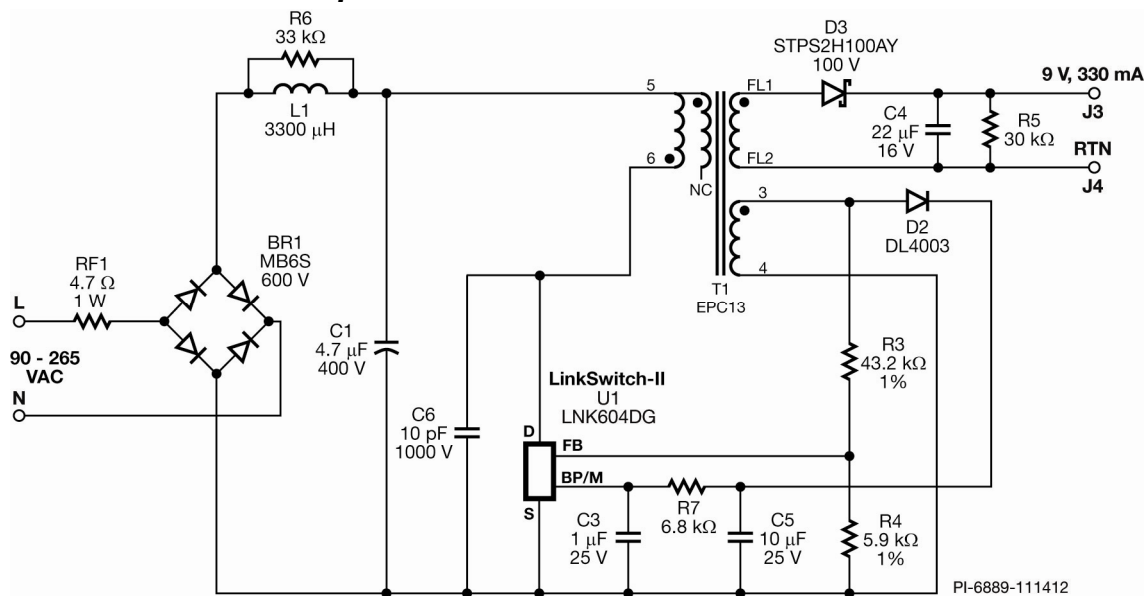

Figure 3A – Schematic (No Clamp Circuit).
6.1 No Primary Clamp Design Bill of Materials (Figure 3A)